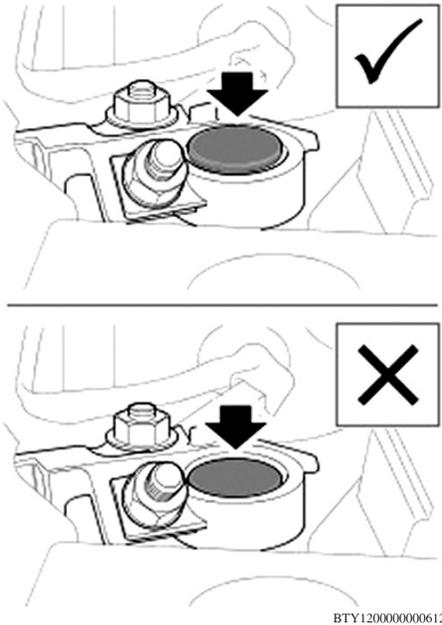

Fig. 4 Battery terminal installation
7. Verify that battery clamps are correctly positioned on terminals when installed, **Fig. 4**.